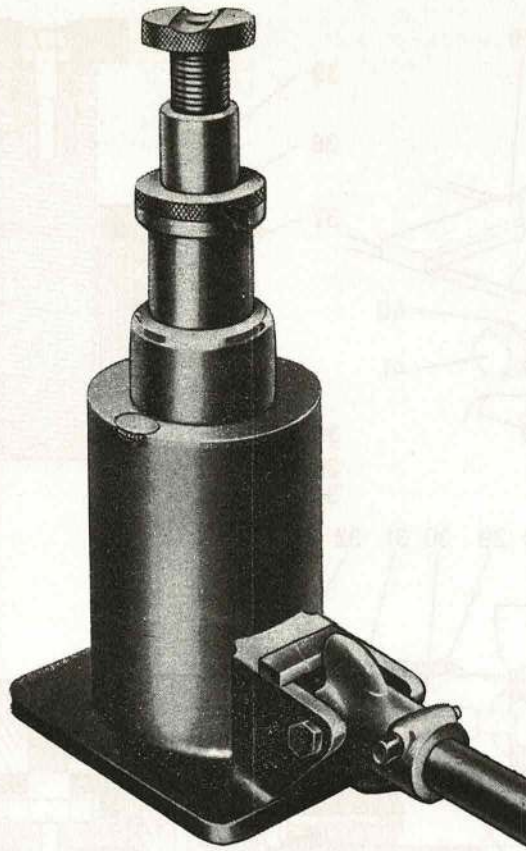

Fig. 1. 4 TON PILLAR HYDRAULIC JACK
13. This jack (Fig. 1) is a typical example of the double ram type. The operating handle also serves to regulate the release valve, which is closed by turning the handle in a clockwise direction.